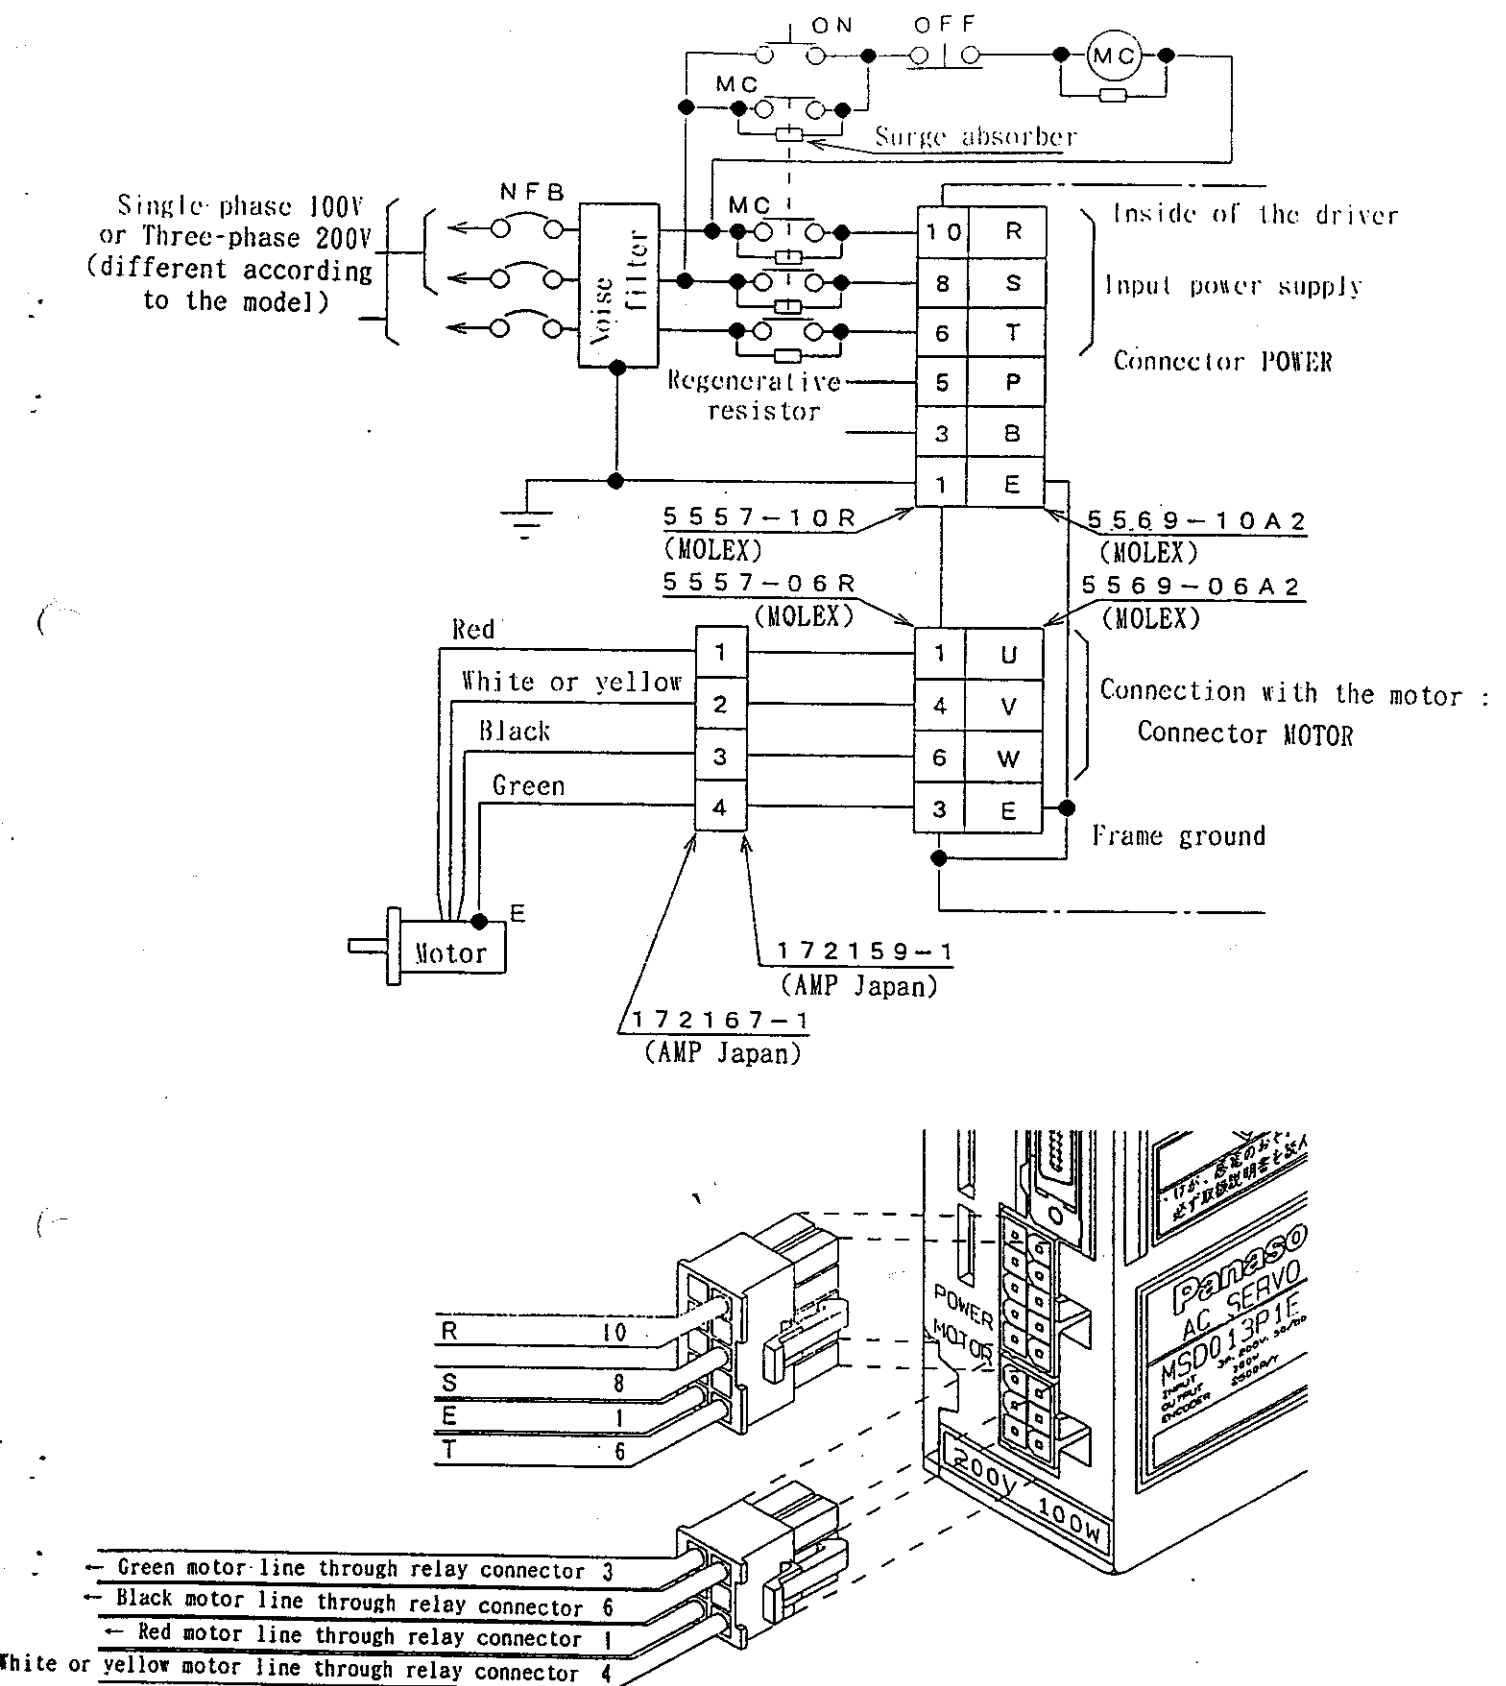

Fig. 4-1 Example of Wiring to Connector POWER and Connector MOTOR
- (1) Perform wiring properly according to the example of Fig.4-1 "Example of Wiring to Connector POWER, Connector MOTOR".
- (2) As for the wiring equipment, wires to be used and so on, please refer to Section 4-2 "Selection of Wiring Equipment" (p.20)
- (3) Apply the voltage of the power supply as shown in the name plate.
- (4) Please avoid reverse connection between the terminal of Connector POWER (R,S,T) and those of Connector MOTOR (U,V,W).
- (5) Please avoid grounding the terminals of Connector MOTOR (U,V,W), or shortening them each other.
- (6) Please connect anything to the terminal of Connector POWER (P,B) normally. Also, do not touch these terminals (P,B), since high voltage is applied. In case of using where regenerative energy absorbing ability is insufficient, please use a regenerative resistor (option : DVOP0820). In detail, refer to Section 4-1-2 "Usage of Regenerative Resistor".
- (7) The rotating direction of the AC servo motor can not be changed by exchanging 3-phase like an induction motor. Connect wires as shown in Fig 4-1.
- (8) Be sure to ground the grounding terminal of connector MOTOR (E) and the grounding terminal of connector POWER (E) together with the grounding terminal of the noise filter at the same point. In addition, we recommend you to ground your machine itself. Please ground with ground resistance of  $100\Omega$  or less and  $\Phi 1.6\text{mm}$  (grounding of the third rank).
- (9) When you use a magnetic connector, relay, coil, or motor with brake, please install a surge absorbing circuit between coils or connectors or brake windings.
- (10) Please install non-fuse breaker and shut off the power externally of the driver in case of emergency. In case of using an earth leakage breaker, use that performed countermeasures for high frequency as a brake "for inverter". Besides, no sudden preventing circuit of the condenser is not added to the power supply circuit of the driver.
- (11) Please install a noise filter in order to reduce radio noise and to prevent any malfunction.
- (4) The wire between the driver and the regenerative resistance should be as short as possible (50cm or less).
- (5) The wiring of the regenerative resistor should be performed securely, according to Fig. 4-1 "Example of Wiring to Connector POWER and Connector MOTOR".